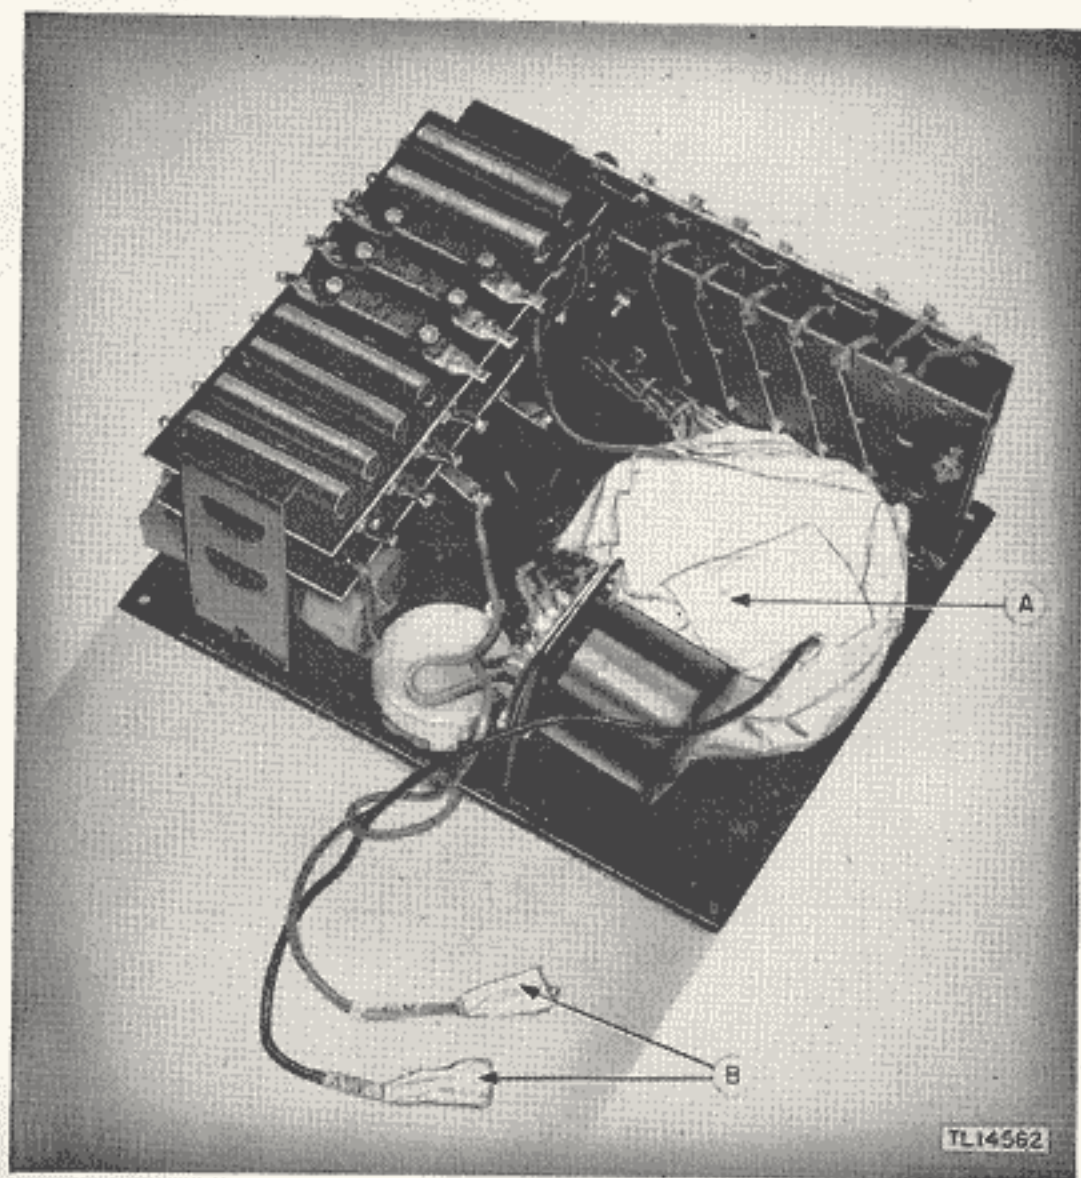

Figure 7. Volt ohmmeter I-166, bottom view, masking.
(3) MASKING. Cover the following components with masking tape as shown in figures 7 and 8.
(a) Complete selector switch, item A, figure 7.
(b) Lugs on battery leads, item B, figure 7.